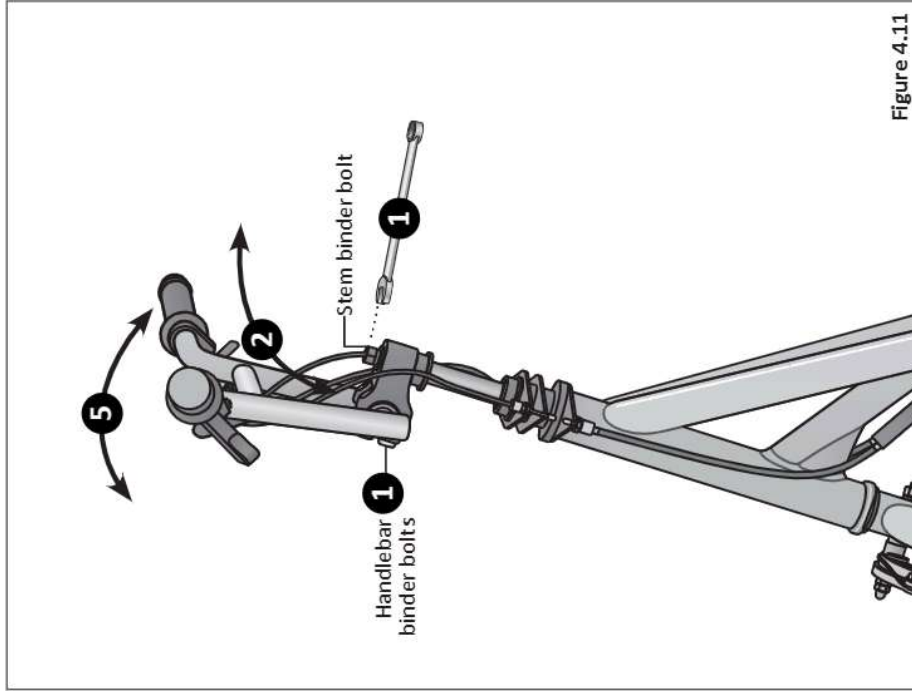

Figure 4.11
- 1** Using a 14 mm open-end wrench loosen the stem binder bolt. **Figure 4.11**